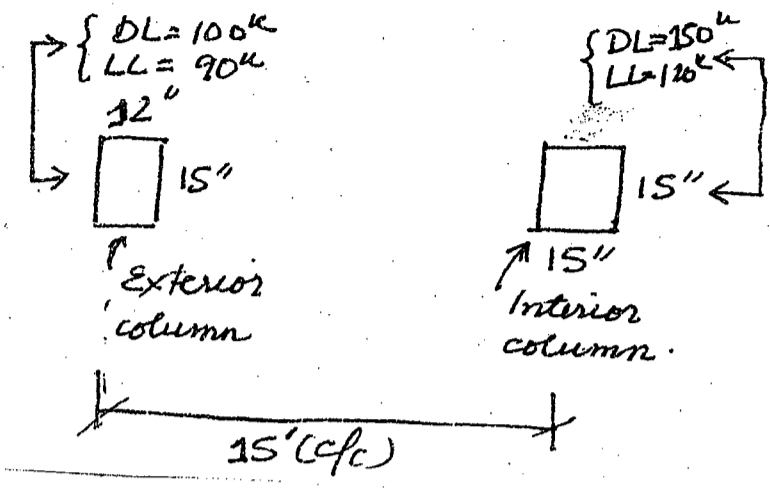

Fig. 4
- (b) A 16 in. concrete wall supports a dead load, DL = 14 kips/ft and a live load, LL = 10 kips/ft. The allowable bearing pressure is $q_a = 5$ kips/ft² at the level of the bottom of the footing, which is 4 ft below grade. Design a footing for this wall using 4000 psi concrete and Grade 60 steel. Also, check the adequacy of development length. (17)
6. (a) An exterior and interior columns are to be supported by a combined rectangular footing whose outer end cannot protrude beyond the outer face of the exterior column. Column sizes and their respective loads are shown in Fig. 4. The bottom of the footing is 6 ft below grade where the net allowable bearing pressure deducting soil load, self weight of footing and other surcharges is 4000 psf. Determine size of the footing. If $d = 18$ inch, check adequacy against punching. Also design the transverse beam. (18)